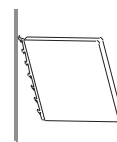

FIG. 1
3. Holding the front edge of the end panel higher than the rear edge (Figure 1) slide the top safety tooth into the appropriate trimrail slot.